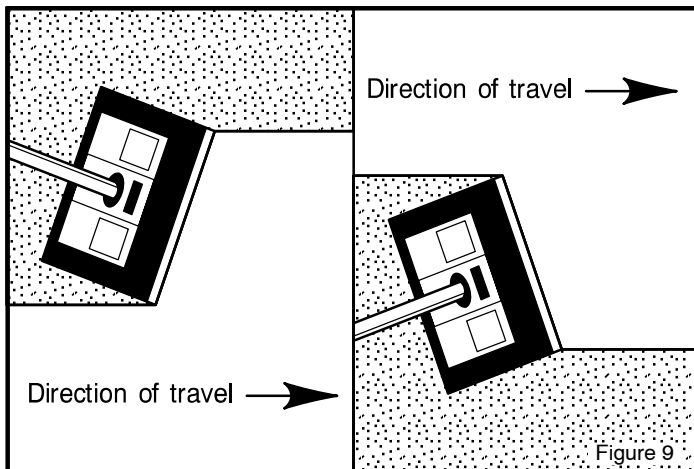

Figure 9
- Direct snow discharge with the wind, whenever possible, at a slight angle to the left or right as required. Figure 9.